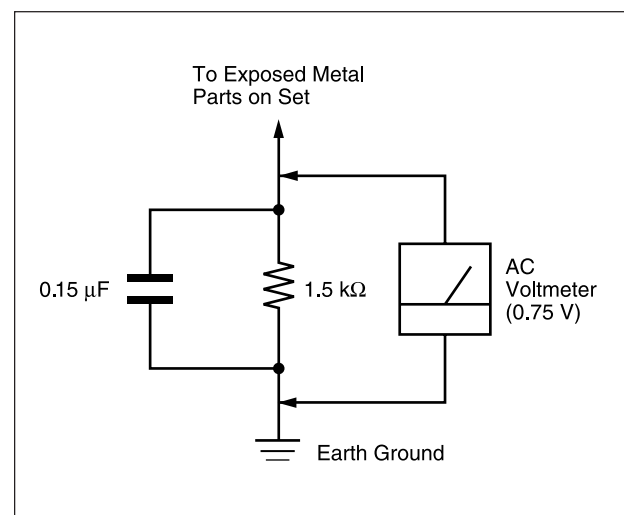

Figure 1. Using an AC voltmeter to check AC leakage.
3. Measuring the voltage drop across a resistor by means of a VOM or battery-operated AC voltmeter. The “limit” indication is 0.75 V, so analog meters must have an accurate low-voltage scale. The Simpson 250 and Sanwa SH-63Trd are examples of passive VOMs that are suitable. Nearly all battery operated digital multimeters that have a 2 VAC range are suitable. (See Figure 1)